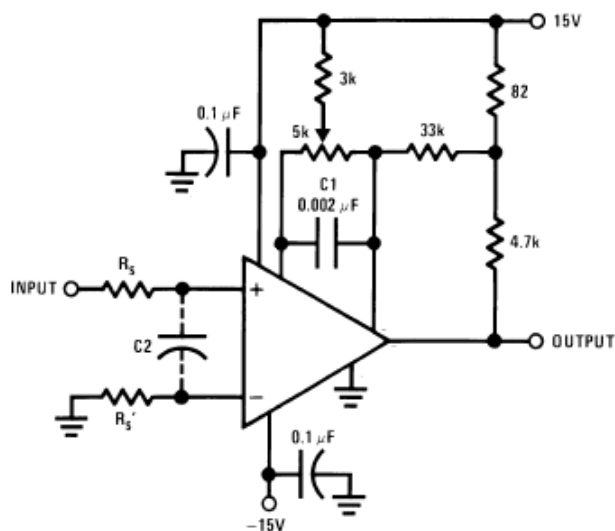
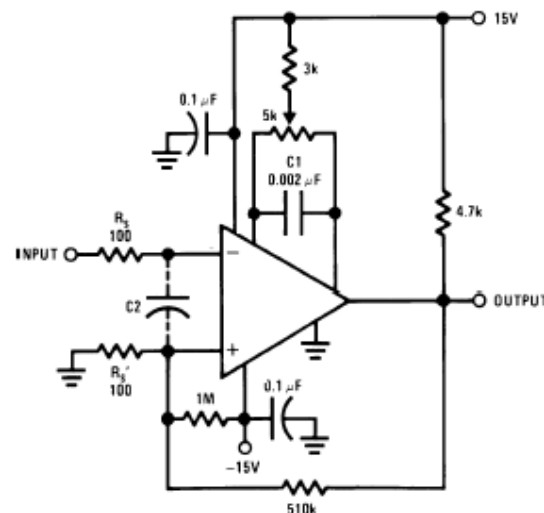
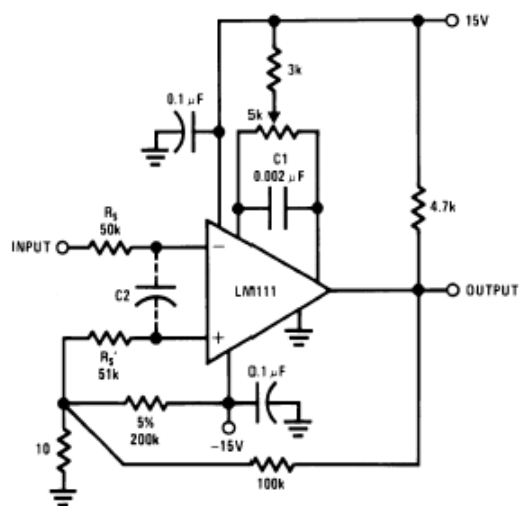

FIGURE 1. Improved Positive Feedback
FIGURE 2. Conventional Positive Feedback
FIGURE 3. Positive Feedback with High Source Resistance
When a high-speed comparator such as the QP111 is used with fast input signals and low source impedances, the output response will normally be fast and stable, assuming that the power supplies have been bypassed (with 0.1 μ F disc capacitors), and that the output signal is routed well away from the inputs and also away from Balance and Balance/Strobe pins. However, when the input signal is a voltage ramp or a slow sine wave, or if the signal source impedance is high (1 k Ω to 100 k Ω), the comparator may burst into oscillation near the crossing-point. This is due to the high gain and wide bandwidth of comparators like the QP111. To avoid oscillation or instability in such a usage, several precautions are recommended, as shown in Figure 1 below.
1. The trim pins (Balance and Balance/Strobe) act as unwanted auxiliary inputs. If these pins are not connected to a trim-pot, they should be shorted together. If they are connected to a trim-pot, a 0.01 μ F capacitor C1 between Balance and Balance/Strobe will minimize the susceptibility to AC coupling. A smaller capacitor is used if Balance is used for positive feedback as in Figure 1.
3. When the signal source is applied through a resistive network, R_S , it is usually advantageous to choose an R_S' of substantially the same value, both for DC and for dynamic (AC) considerations. Carbon, tin-oxide, and metal-film resistors have all been used successfully in comparator input circuitry. Inductive wire wound resistors are not suitable.
6. It is standard procedure to use Hysteresis (positive feedback) around a comparator, to prevent oscillation, and to avoid excessive noise on the output because the comparator is a good amplifier for its own noise. In the circuit of Figure 2, the feedback from the output to the positive input will cause about 3 mV of Hysteresis. However, if R_S is larger than 100Ω , such as $50\text{ k}\Omega$, it would not be reasonable to simply increase the value of the positive feedback resistor above $510\text{ k}\Omega$. The circuit of Figure 3 could be used, but it is rather awkward. See the notes in paragraph 7 below.
7. When both inputs of the QP111 are connected to active signals, or if a high-impedance signal is driving the positive input of the QP111 so that positive feedback would be disruptive, the circuit of Figure 1 is ideal. The positive feedback is to Balance pin (one of the offset adjustment pins). It is sufficient to cause 1 to 2 mV Hysteresis and sharp transitions with input triangle waves from a few Hz to hundreds of kHz. The positive-feedback signal across the 82W resistor swings 240 mV below the positive supply. This signal is centered around the nominal voltage at the Balance pin, so this feedback does not add to the VOS of the comparator. As much as 8 mV of VOS can be trimmed out, using a $5\text{ k}\Omega$ pot and $3\text{ k}\Omega$ resistor as shown.